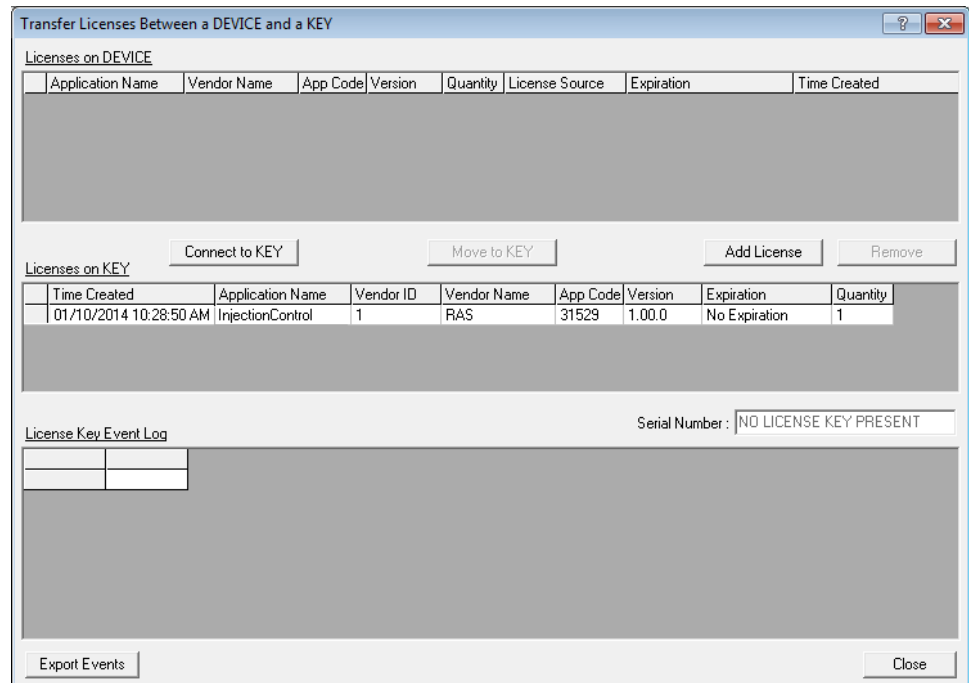

Figure 4. Transfer Licenses Between a Device and a Key
3. Select the key-based license you want to transfer to the FB107 (**InjectionControl**, as shown in *Figure 4*).